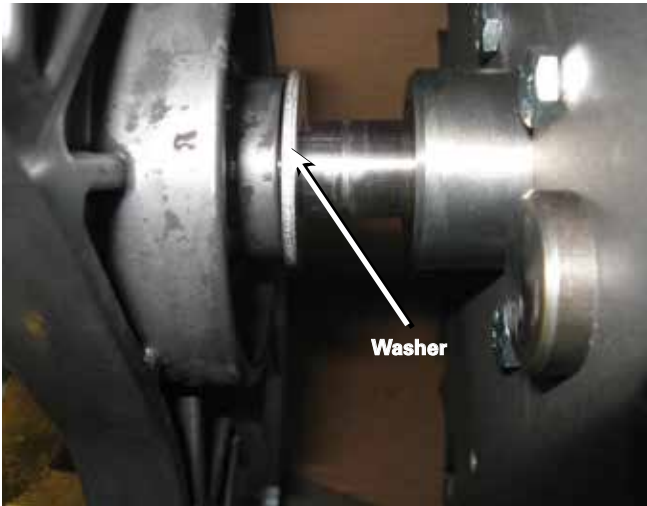

Figure 136. Washer.
- Use a pair of lineman's pliers to remove the retaining ring. Slide the washer up against the movable contact panel. Refer to Figure 136.